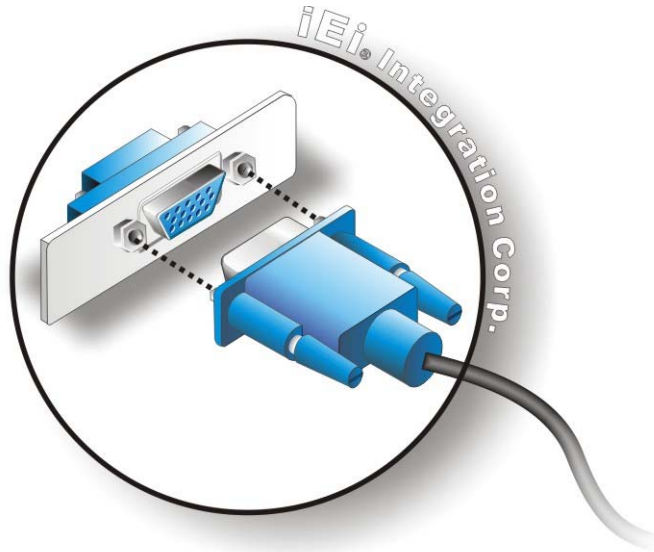

Figure 4-13: VGA Connector
Step 3: Insert the VGA connector Once the connectors are properly aligned with the insert the male connector from the VGA screen into the female connector on the WAFER-PV-D5251/N4551. See Figure 4-13.